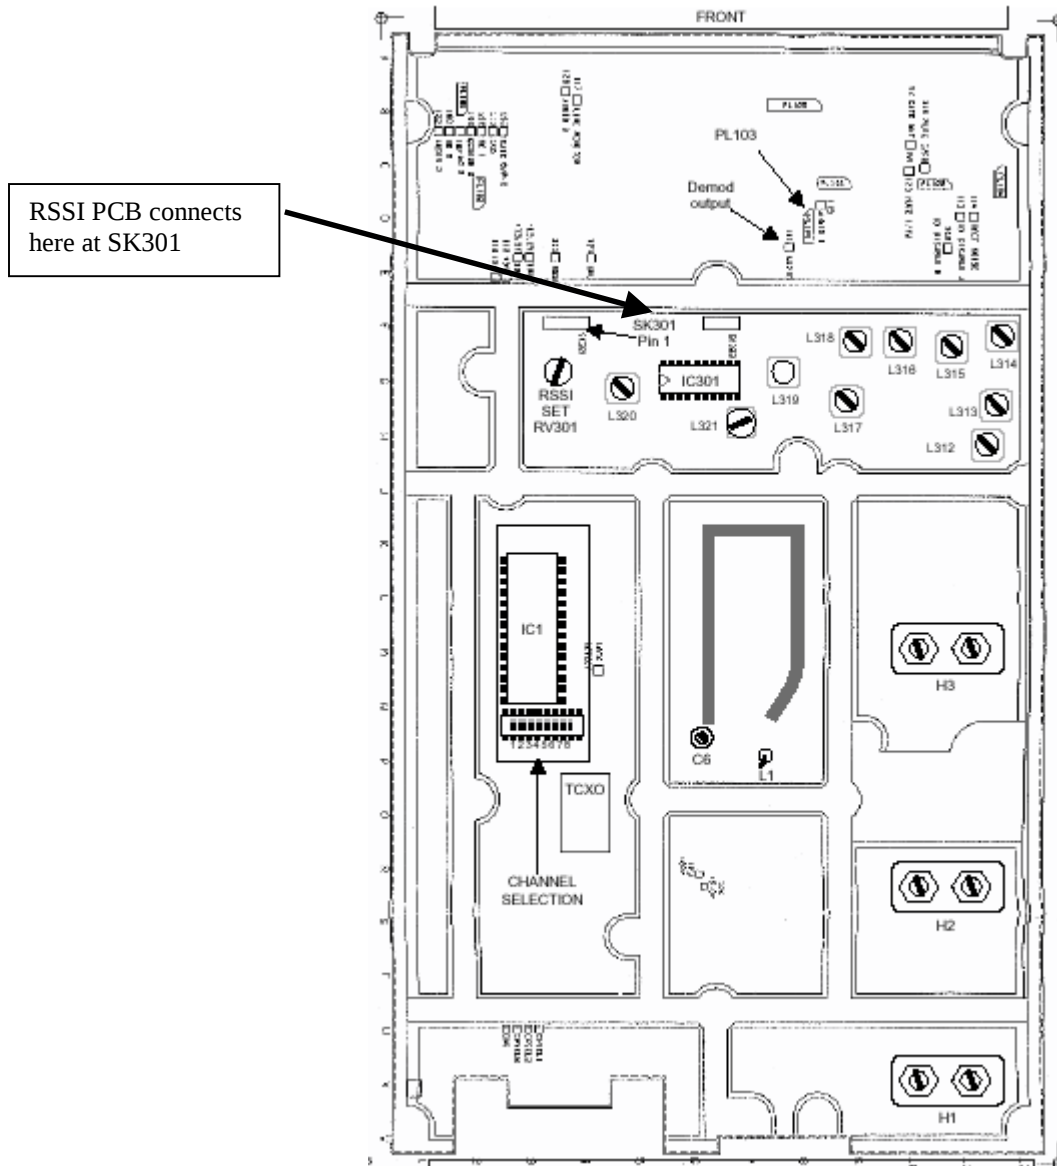

Figure 10 - T885 receiver RSSI PCB location
10. Install the RSSI PCB T800-04-0000 at SK301 & SK300. Add some silicone on the top, between the PCB and the IF's cavity wall. Refer to Figure 10, 13(Note 3)